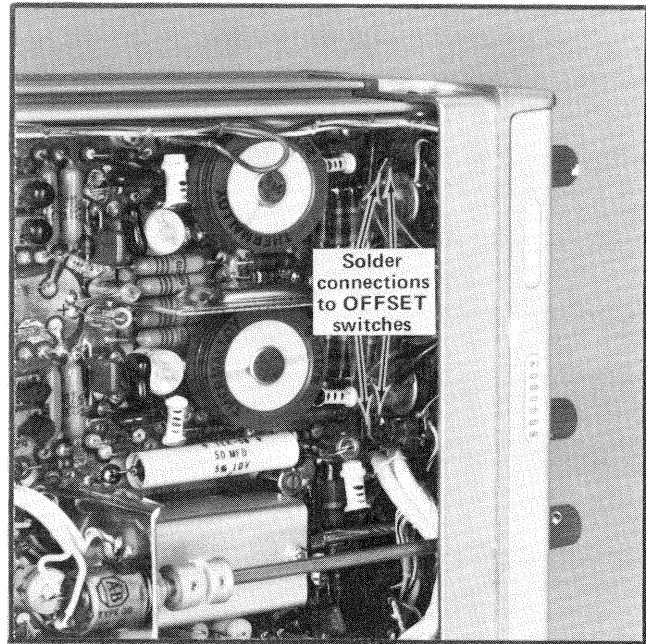

Fig. 4-7. Soldered connection of the four 100 Ω circuit board resistors to 50 Ω INTERNAL TERMINATION switches. Disconnect to remove circuit board.
4. Unsolder the lead connections from the four parallel, 100 Ω , resistors to the 50 Ω INTERNAL TERMINATION switches, at the switch terminals. (Fig. 4-7).